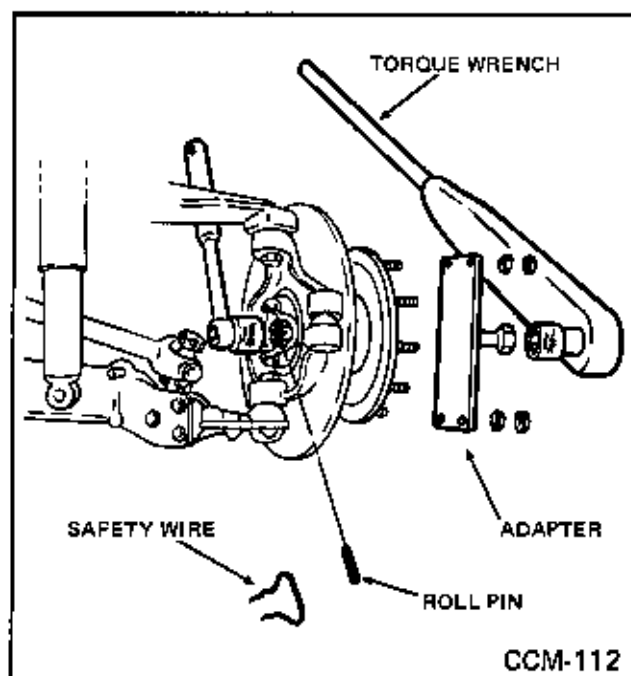

Fig. 107
8. Remove safety wire and roll pin. (Fig. 107)
9. Place adapter on four (4) wheel studs and secure in place with wheel nuts. (Fig. 107)
10. Place 1 5/8" socket on spindle yoke nut. Place 1 1/2" socket on adapter and remove spindle yoke nut with torque wrench. (Fig. 107)